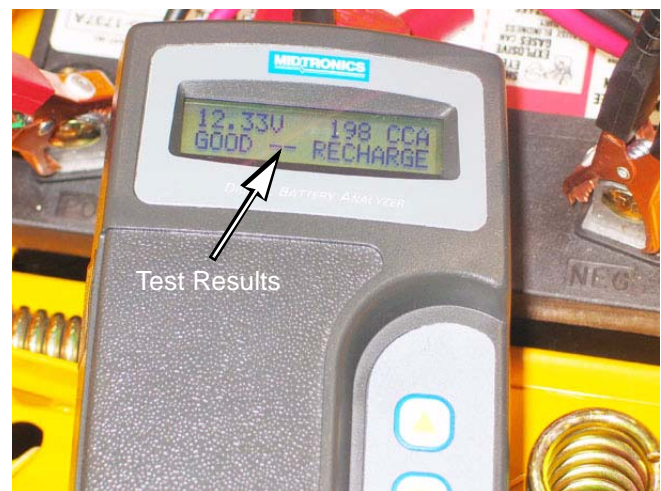

Figure 7.47
4. Read the display of the tester. The tester's display will indicate if the battery passed or not. See Figure 7.47.